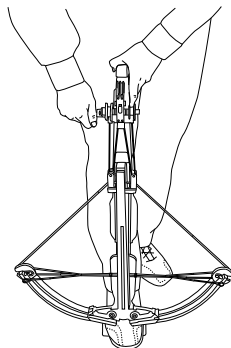

Figure 18
- ④.5 Attach the crank handle to the winch. Turn handle several clicks to apply slight pressure to secure in place.
- 4.6 Place one foot securely into the cocking stirrup. Turn the crank handle smoothly until the cocking winch draws the crossbow string back into the trigger mechanism until the crossbow safety moves to the “Safe” position. The crossbow is now fully cocked (See Figure 18).